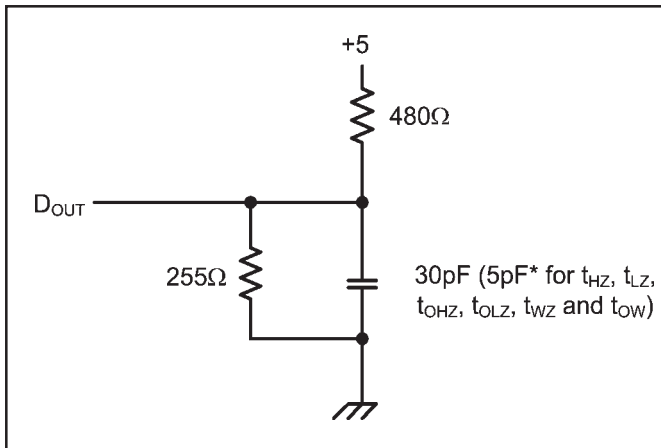

Figure 1. Output Load
- 8. Transition is measured $\pm 200\text{mV}$ from steady state voltage prior to change, with loading as specified in Figure 1.
| Output Load | See Figures 1 and 2 |